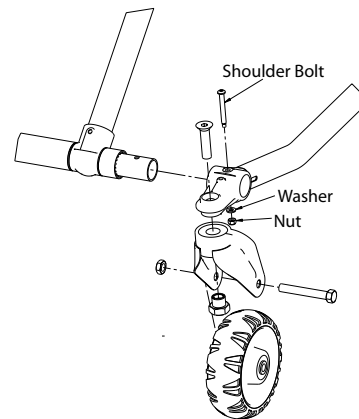

Figure 61
4. Using a 3/8" and 7/16" combination wrench, remove all four shoulder bolts that secure the outer base tube assemblies to the base crosstubes (see Figure 61).
4. Using a 3/8" and 7/16" combination wrench, remove all four shoulder bolts that secure the outer base tube assemblies to the base crosstubes (see Figure 61 on page 63).
3. Using a 3/8" and 7/16" combination wrench, remove all four shoulder bolts that secure the outer base tube assemblies to the base crosstubes (see Figure 61 on page 63).
4. Using a 3/8" and 7/16" combination wrench, remove all four shoulder bolts that hold the outer base tube assemblies to the base crosstubes (see Figure 61 on page 63).